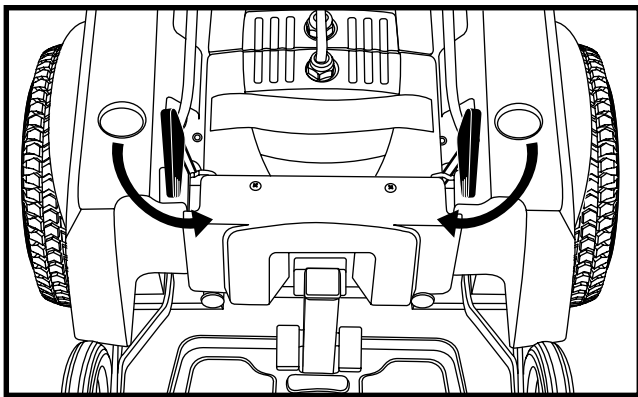

Figure 8. Drive Mode
For convenience, your power chair is equipped with two manual freewheel levers—one for each motor. See figures 8 and 9. These levers allow you to disengage the drive motors from the gearboxes and manoeuvre the chair manually. This is called freewheel mode.
1. Rotate the manual freewheel levers inward to engage the drive motors and place your power chair in drive mode. See figure 8.